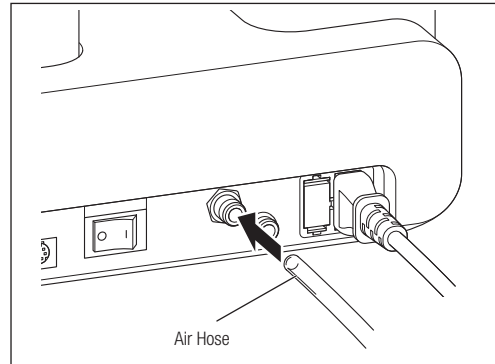

Fig. 2
- 1) Insert one end of the Air Hose deep into the Air Hose Connector (Fig. 2).